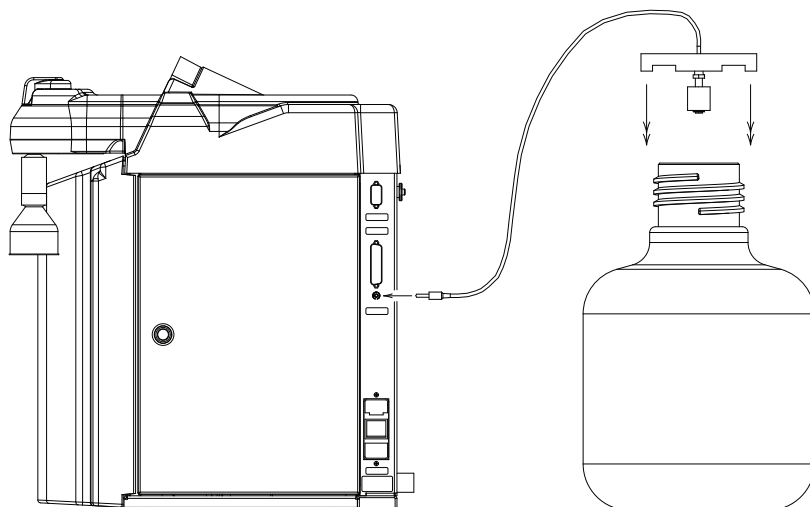

Figure 13: AY1367X1 Dispense Overflow Cutoff Float
1. Prior to initialing an automatic dispense (time or volumetric), plug AY1367X1 into connector on back right side of Nanopure. See Figure 13.